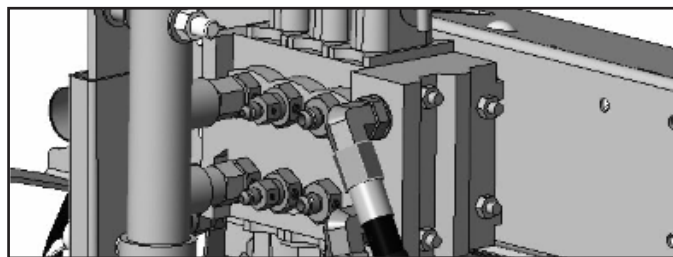

Figure 41: Main control hose
1. Block front tires and jack rear of unit per jacking instructions. With unit cool to slightly warm locate the oil supply hose as shown in **Figure 41**.